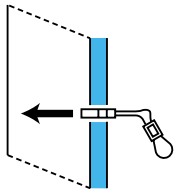

Fig. 3
- 6 Hinge the plastic legs of the toggle bolt into the channel of the metal end of the toggle bolt so it can fit into the 1/2" hole drilled in the wall (refer to Figure 3).
- 7 Insert the toggle bolt into the hole in the wall and push it in past the metal stud (refer to Figure 3).